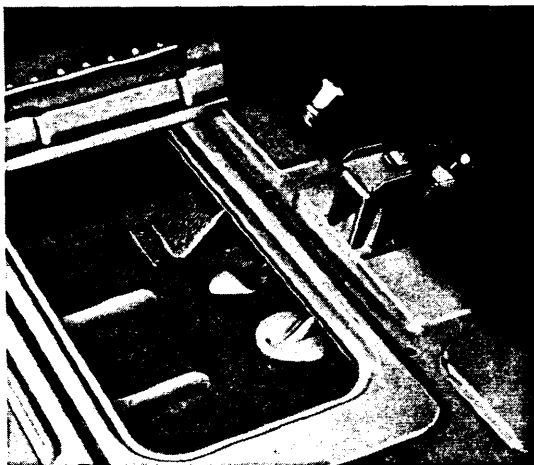

Fig. 10
- d - Pull the Bowden cable and the switch cable through the holes drilled in the seat box. Screw the switch and cap together and secure cap to floor of tool box with two tapping screws (Fig. 10).